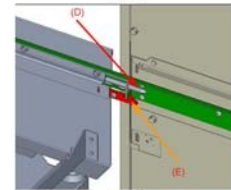

Fig. 3
3. The height of the guide bolts (D) must be in line with the openings for entering into the switching device compartment. (Fig. 3)
5. Interlock the service truck with the panel (E). To do this, move the service truck towards the panel until stop. Correct interlocking is indicated by a click sound as soon as the two locking elements latch in. (Fig. 3)
6. Check the interlocking function by pulling the service truck (G) away from the panel. If the truck stays in position, the interlocking is fixed.
7. To release the withdrawable part, turn the two locking levers (C) 90° to the outside. Then pull the withdrawable part onto the service truck only by the handles (A) until it latches in at the stop. Turn the locking levers (C) 90° to the inside.
8. To release the service truck from the panel, fold the two unlocking levers (K) on the right and left side of the service truck up, and pull the service truck away from the panel by the handles of the withdrawable part (A).